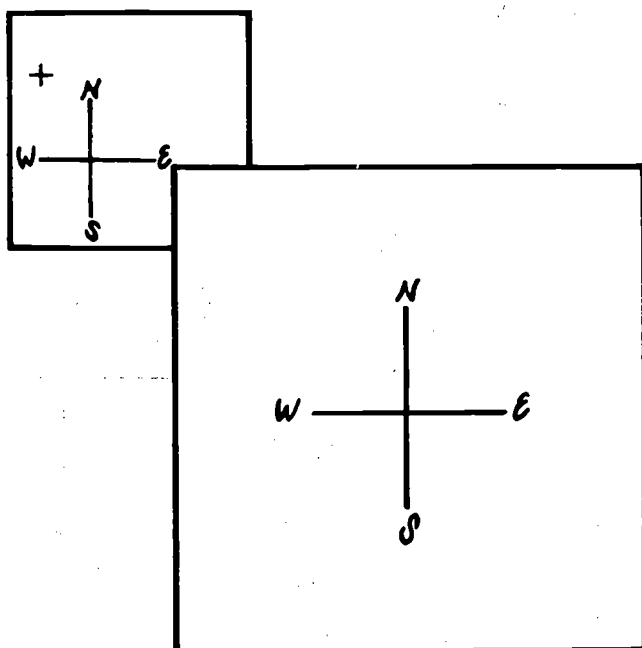

Fig. 11-3. Site Board and Monument Marker
8. Fit the northwest corner of the 48" x 48" piece into the notch in the 12" x 12" piece. See Fig. 11-3.